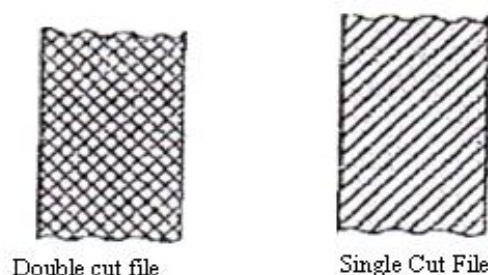

Fig. 2
Cuts of files are divided into two groups - single cut and double cut (Fig: 2). These files are further divided according to spacing between teeth as Rough (R), Bastard (B), Second Cut (SC): Smooth (S): Dead Smooth (DS) and Super Smooth (SS).